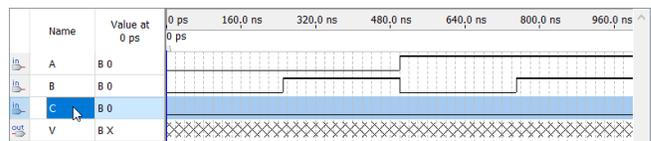

Figure 30. Waveform after selecting input C.
11. Click port symbol of input **C** to highlight the whole frame of the input **C** as shown in Figure 30.